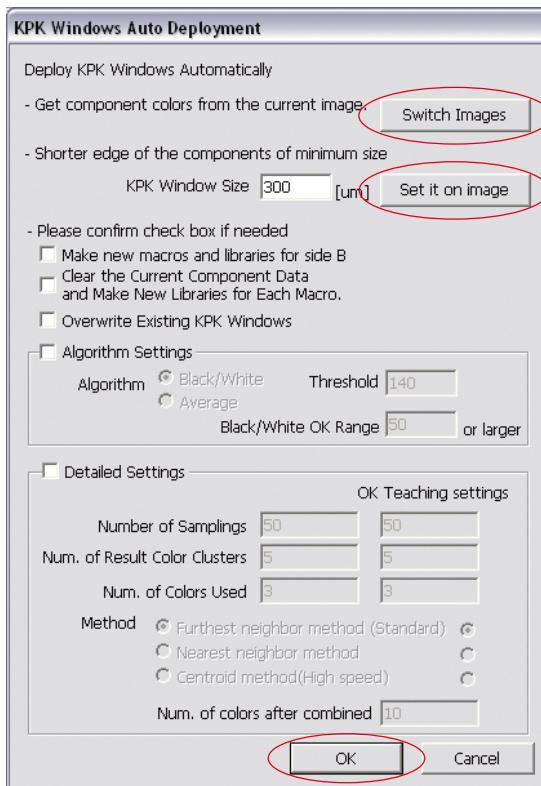

Figure 2-15 KPK Windows Auto Deployment
Step1: Register all NG colors and press **OK**. The window shown in Figure 2-15 appears.